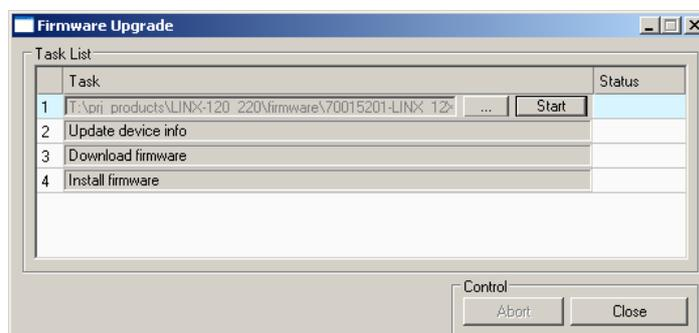

Figure 66: Firmware Update dialog of the Configurator.
8. This opens the **Firmware Update** dialog as shown in Figure 66. Click on the button  and select the firmware image.